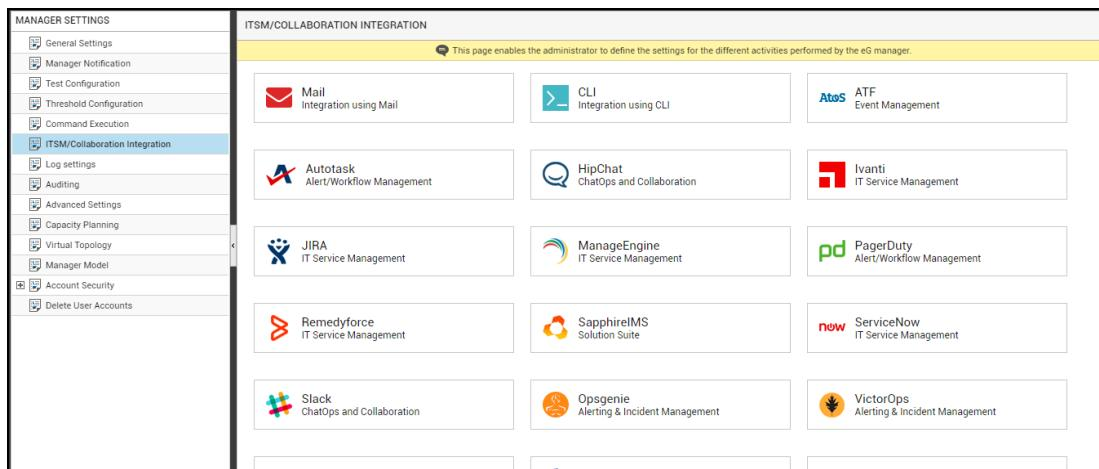
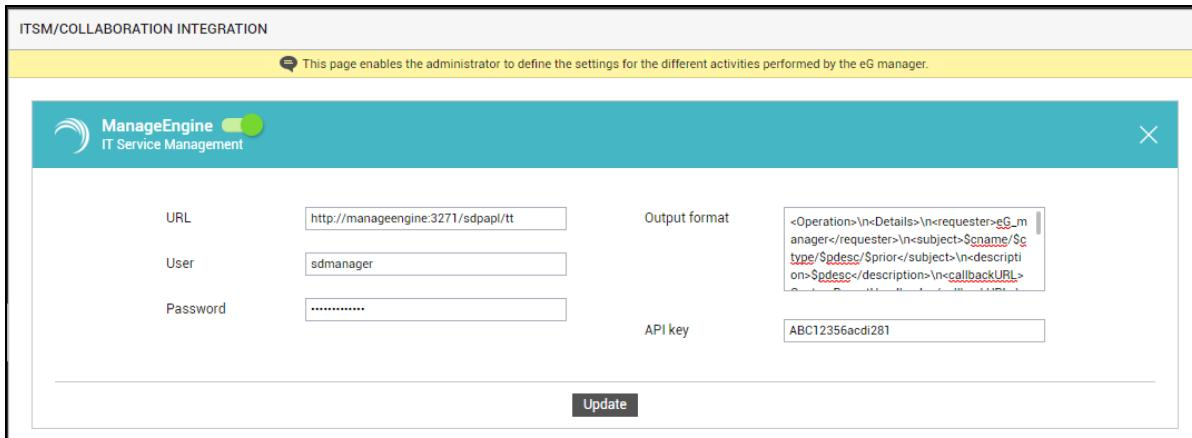

Figure 5.1: Viewing the ITSM/Collaboration tool options
Figure 5.2: Configuring integration with ManageEngine ServiceDesk
3. Figure 5.1 will then appear. From the **MANAGER SETTINGS** tree in the left panel of Figure 5.1, select the **ITSM/Collaboration Integration** node. The third-party ITSM/Collaboration tools that eG Enterprise can integrate with will be listed in the right panel.
4. Now, click on the **ManageEngine** option in the right panel (see Figure 5.1). A **ManageEngine** section will now appear in the right panel (see Figure 5.2).
5. To enable integration with ManageEngine ServiceDesk, first slide the **ManageEngine** slider in Figure 5.2 to the right.
9. Then, specify the API key of the TT system. The eG manager will be able to communicate with ServiceDesk through this API key only. ManageEngine generates a unique key for the user, whose credentials are specified against User and Password parameters in Figure 5.2 above. **The eG manager will not be able to use the ServiceDesk API, if this key is not specified or an invalid key is specified.**